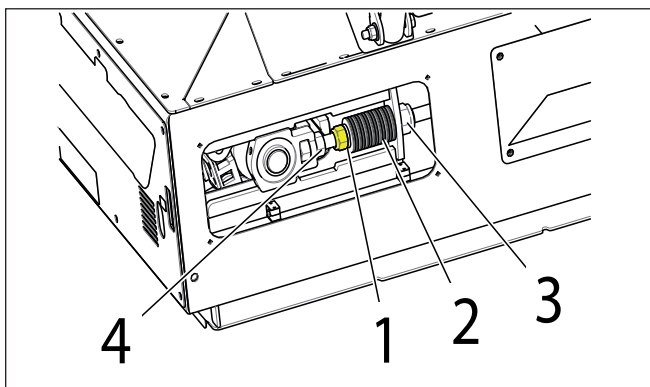

Figure 6.2 - Apron Conveyor Tensioning
5. Tighten the apron conveyor by turning the Bolt highlighted in Yellow (Clockwise to tighten) or (Anti-Clock wise to loosen) See Figure 6.2 item 1. Ensure nut 4 does not rotate.
7. Start the machine. To ensure the apron conveyor is running smoothly, there should be a smooth back and forth movement of the bearing on the bearing slide. The disc springs item 2 Figure 6.2 allow for this movement. If the disc springs are not allowing movement, loosen by adjusting nut 3 see Figure 6.2. If tension cannot be maintained replace the disc washers.